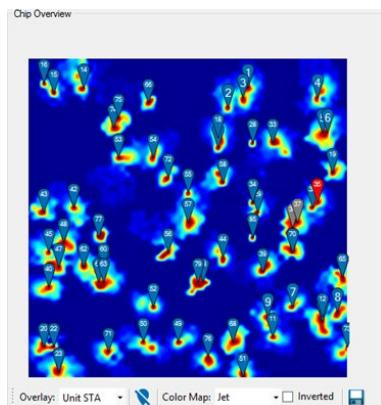

Figure 16: Chip Overview with markers
- **Unit STA:** The Unit STA measure is shown in a heat map. It shows a score for the relative contribution of each sensor to the detected units. See section „Unit STA Measure“ on page 90 for details on this measure and Figure 16 for an example.